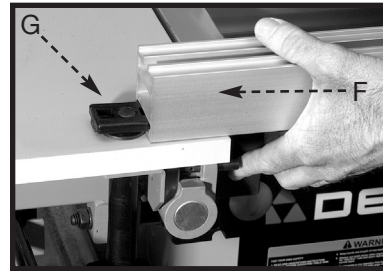
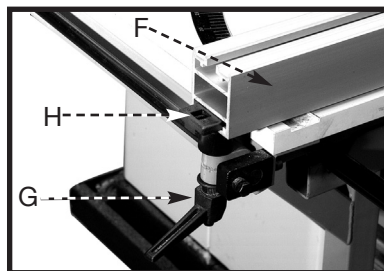
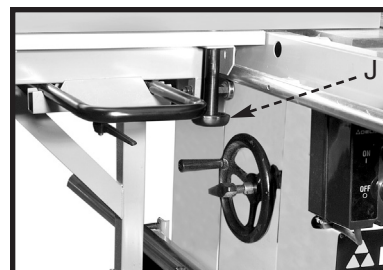

Fig. 43
Fig. 44
Fig. 47
18. Attach fence (F) Fig. 43 to right fence clamp (G) and into left fence clamp (H) Fig. 44.
19. After the fence is attached to the sliding table, tighten the fence lock handle (G) Fig. 44 and lock knob (J) Fig. 47.